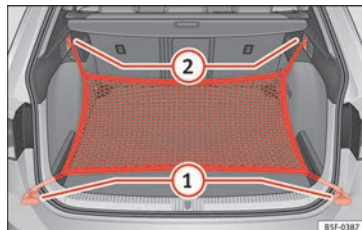

Fig. 178 In the luggage compartment: rings **1** and hooks **2** for securing the net bag (LEON ST model).
- Secure the short net hooks to the fastening rings »» Fig. 178 ① »» ⚠. The bag zip should be facing upwards.
- Secure the straps in the bag hooks ②.